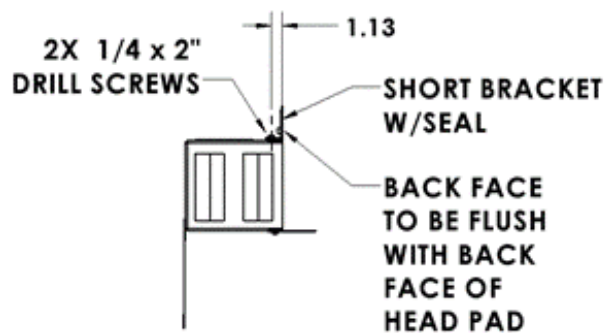

FIGURE 14
- c. Mount (2) Short Brackets w/Seal (B) to the top ends of the Head Pad (E). Position the first Short Bracket w/Seal on the top left side of the Head Pad flush with the end face of the Head Pad backer. The back face of the Short Bracket w/Seal needs to be flush with the back face of the Head Pad (Figure 14). The seal side has to lay flat on top of the Head Pad. Mark the (3) drilling locations at each end of the horizontal bracket leg, 1 1/8" from the back face, and then secure the Short Bracket w/Seal using the provided fasteners as shown below (Figure 15). Ensure the new screw locations are not in line with the existing screws on the top of the Head Pad. Repeat this process for attaching the Short Bracket w/Seal on the right end of the Head Pad.